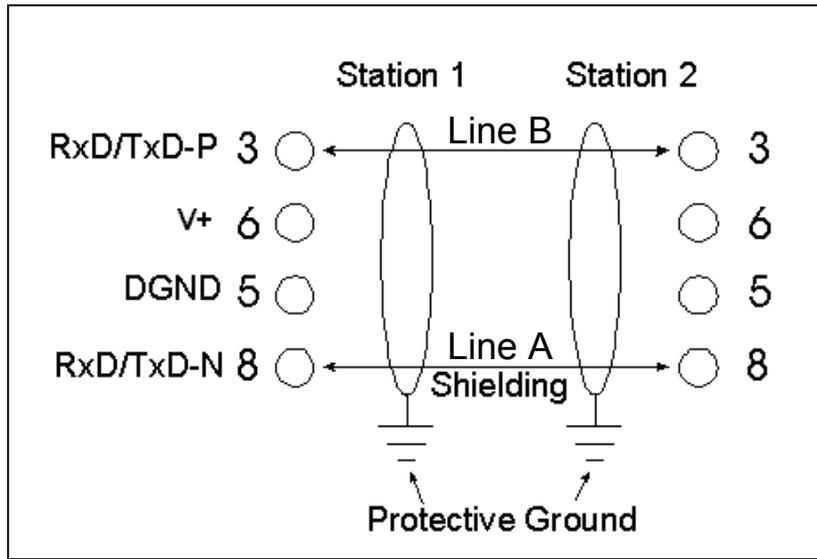

Figure 4.1
- a. The PBM101/ PBM101-12 uses a 9-pin D-sub plug connector for its DP port. The pin assignment of the plug connector and the wiring are shown below (**Figure 4.1**).